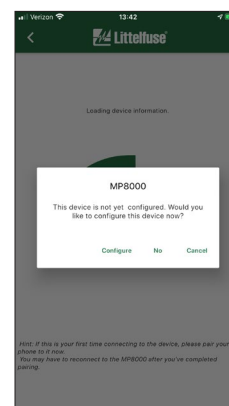

Figure 3
- g. If the MP8000 has never been configured, a popup box will appear prompting the user to configure the MP8000. (See Figure 3)